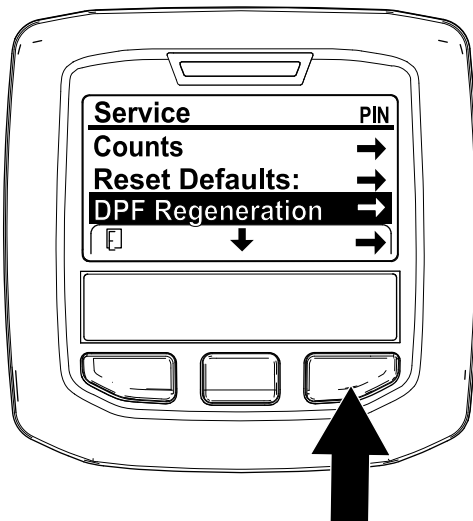

Figure 63
1. Access the Service menu, press the center button to scroll down to the DPF REGENERATION option (Figure 63).
2. Press the right button to select the DPF Regeneration entry (Figure 63).